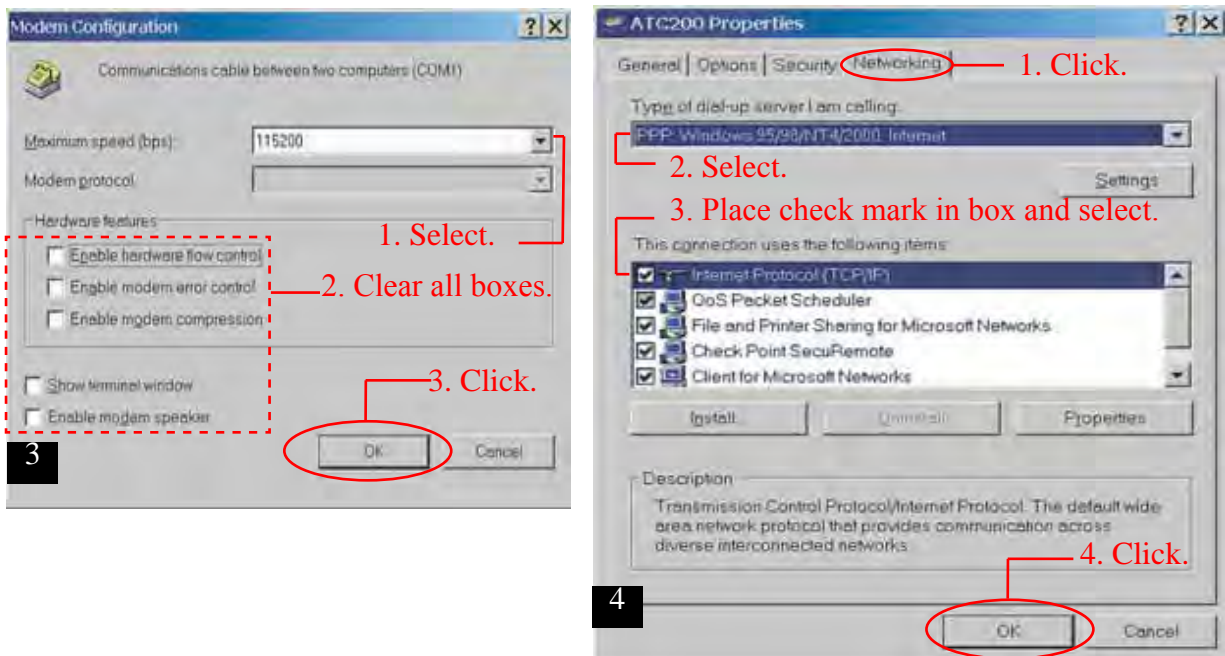

Figure 5-17. Configuring Serial Connection (Screens 3 through 4).
4. Change the maximum speed to **115200**, clear all check boxes, and click on **OK** (Screen 3, Figure 5-17).
5. Click on the **Networking** tab (Screen 4, Figure 5-17).
6. Select **PPP Windows 95/98/NT4/2000 Internet** from drop down menu (Screen 4, Figure 5-17).
7. Place a check mark in the box next to **Internet Protocol (TCP/IP)**, and select (Screen 4, Figure 5-17).
8. Click on **OK** (Screen 4, Figure 5-17).